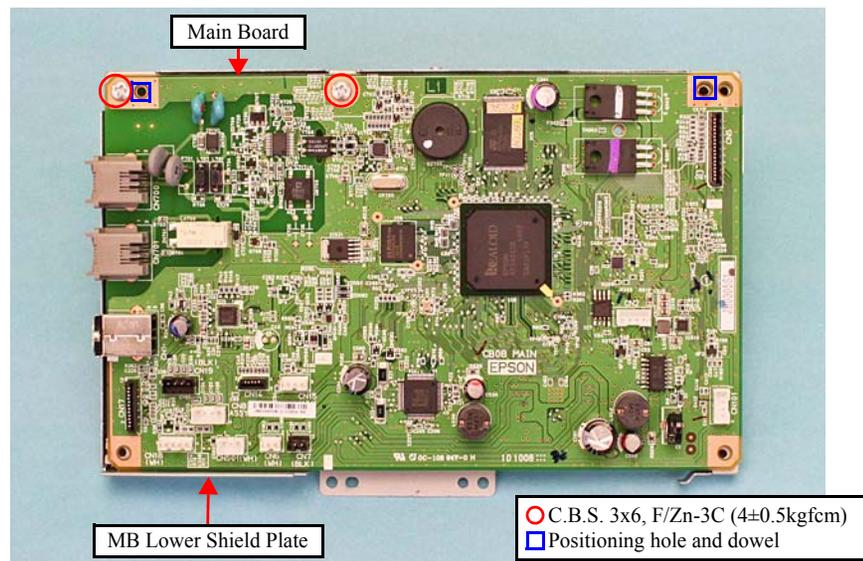

Figure 7-43. Removing the Main Board
- When installing the Main Board to the MB Lower Shield Plate, make sure to match the positioning holes (x2) to the dowels (x2) as shown in Figure 7-43.